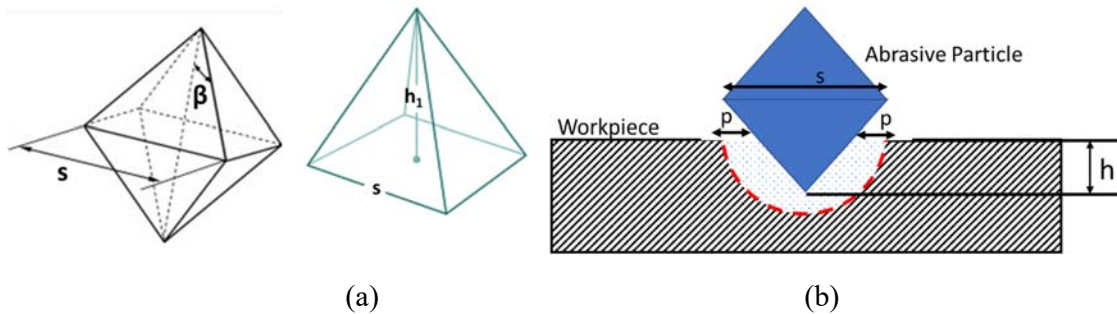

Fig. 1. (a) Abrasive particle shaped in octahedron (b) Material removal mechanism.
Que 1: Ultrasonic machining is performed to make square hole in the tungsten carbide material which has flow strength of σ_w . Size of square hole is ' m ' and thickness of the workpiece is ' n '. The diamond abrasives slurry is used in machining with concentration ' c '. The diamond abrasive particles are assumed to be sharp rigid octahedrons of the same size. Every four adjacent triangles have a common vertex, forming a pyramid, as shown in Fig. 1(a). Only vertex side of pyramid of each octahedral particle takes part in cutting. The semi-angle (β) between two opposite edges of an abrasive particle is 45° and the lengths of its 12 edges are same and can be expressed as ' s '. The volume of the pyramid with square base with edge length ' s ' and height ' h_1 ' is $\frac{s^2 h_1}{3}$. Density of abrasive particles is ρ_p . Assume the removal of material using brittle fracture and in hemi spherical shape. View of abrasive particle and material is shown in Fig 1(b). Value of ' p ' shown in Fig. 1(b) is $\{p = h * 0.1 * (\text{last digit of your roll number})\}$. Those students have zero (0) last digit can take $p=h$.